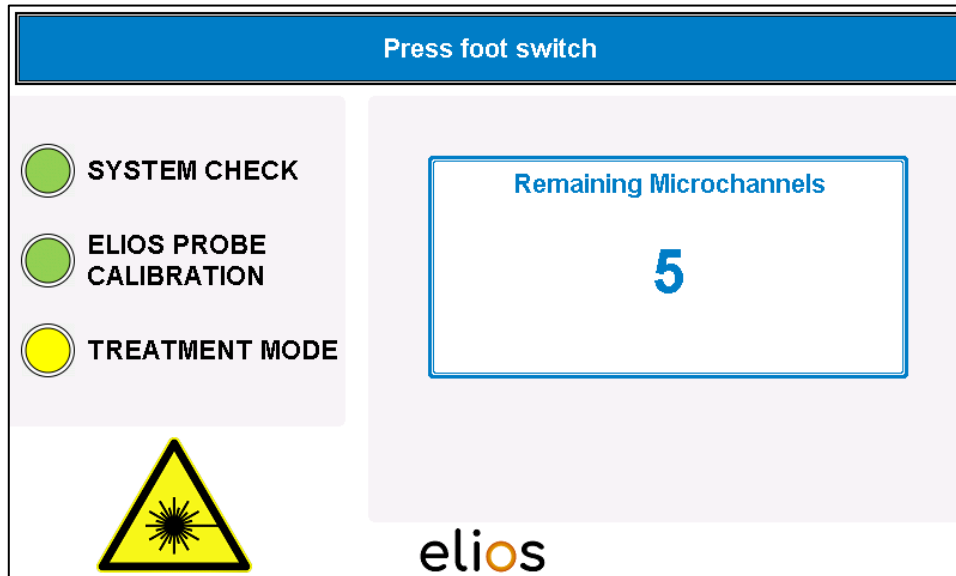

Fig. 4-16: TREATMENT MODE
- When the maximal number of 20 pulses per microchannel is reached, the laser emission is stopped automatically and the program changes to the next window and a further 20 pulses are available (Fig. 4-16).
- If the foot switch is released prematurely the laser emission is stopped automatically and the program also changes automatically to the next window (Fig. 4-16).